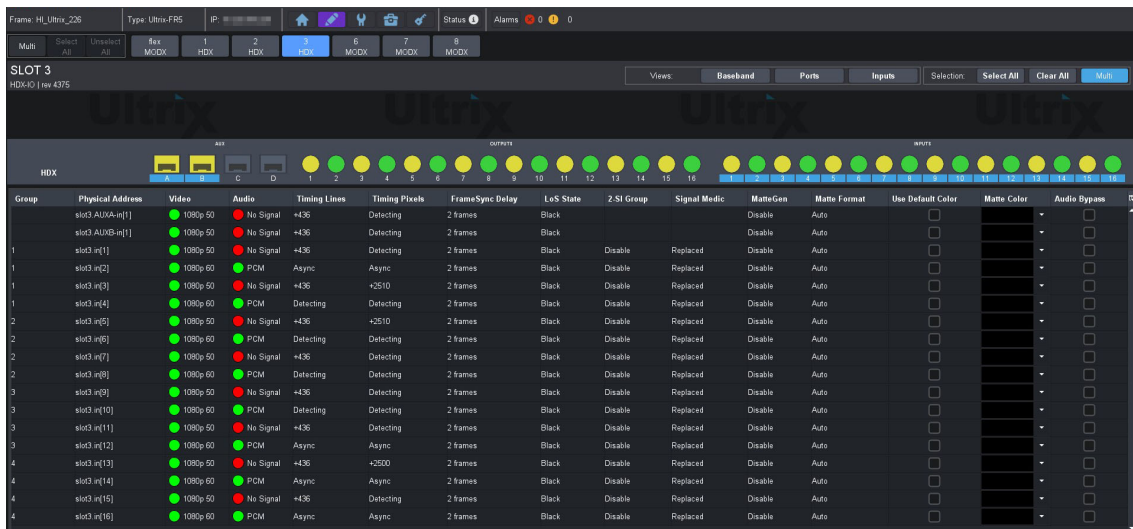

Figure 24 Example of an ULTRIX-HDX-IO Blade in the Port Configuration Interface
The Port Configuration interface displays the available SDI configuration options in a table format. Use the top toolbar to select a specific blade, or click Multi to select multiple blades of the same type. Use the Views toolbar to filter the table rows. For example, in **Figure 24** the user is viewing the ULTRIX-HDX-IO blade in slot 3, but has filtered the table to display only the Input Ports.
**Table 40** summarizes the options when Views is set to Baseband > Ports > Inputs. (**Figure 24**)